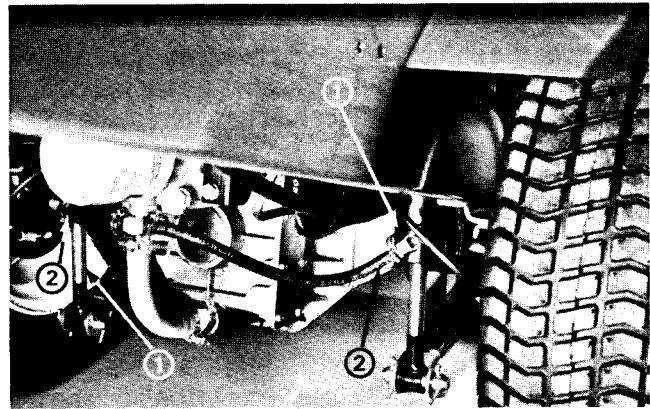

Figure 15
3. Put an empty drain pan below the lift cylinder that you think may have internal leakage. Loosen the hose clamp and disconnect the cylinder return hose from the bottom of the lift cylinder (Fig. 15). Leave the other end of the hose connected to the fitting on the bottom of the transmission.